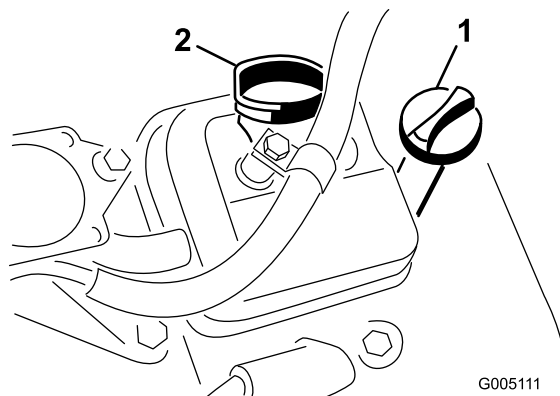

Figure 19
2. Unscrew the dipstick and wipe it with a clean rag. Screw the dipstick into the tube and make sure it is seated fully (Figure 19).